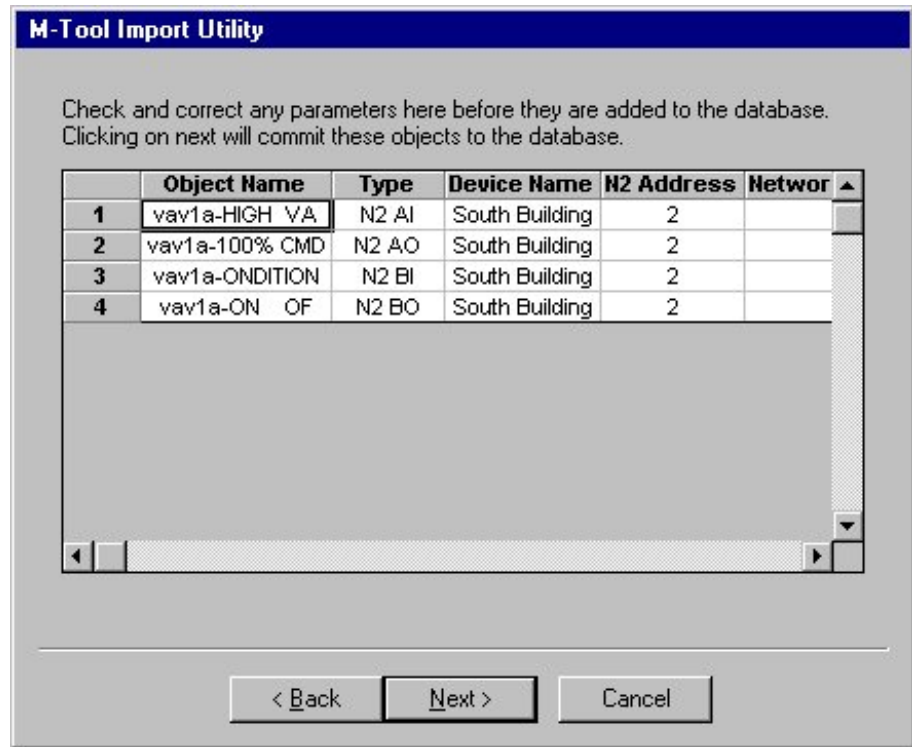

Figure 5-4: M-Tool Import Utility Parameters List
4. Click the Add N2 files button if you want to import more N2 Controller files. Otherwise, click Next. The M-Tool Import Utility parameters list appears showing all the items contained in the N2 Controller file you are importing (Figure 5-4).
6. Double-click cells for parameters you want to edit before importing. For example, in Figure 5-4, you can use the horizontal scroll bar to view columns that do not display when the M-Tool Import Utility screen appears. When finished, click Next. The files are saved to your project database, and the M-Tool Import Utility finished screen appears (Figure 5-5).